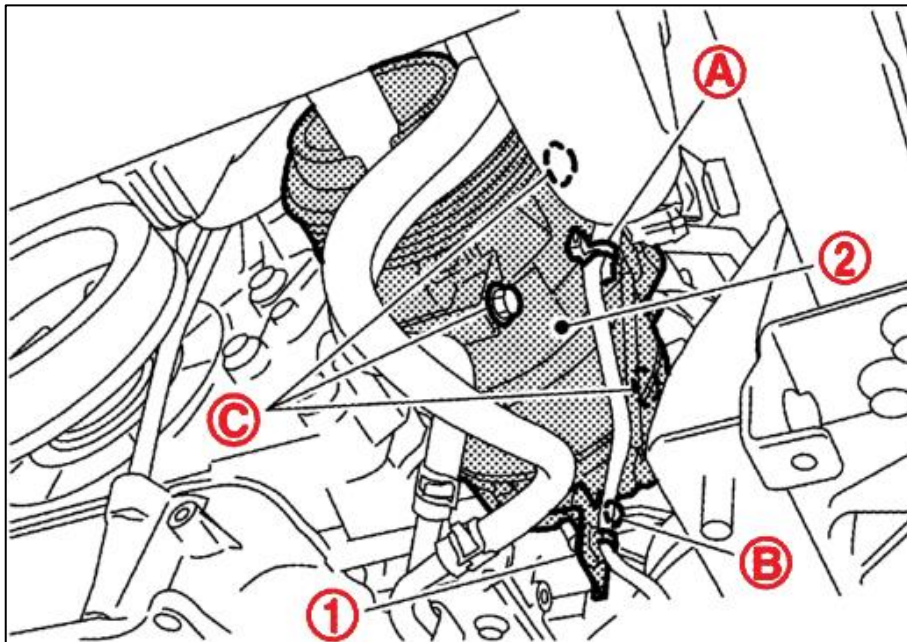

Figure 3
11. Remove the (3) three mounting bolts from the AC Compressor (C) and remove the AC Compressor (2) from the vehicle. *Figure 3.*